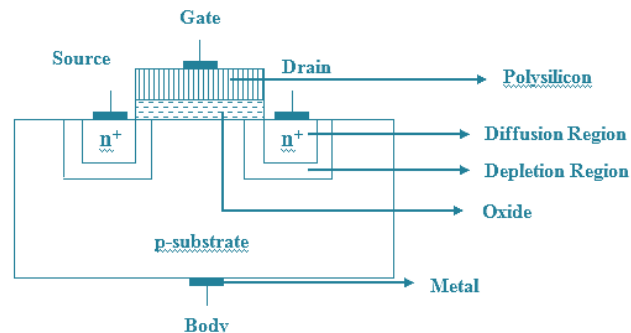

Fig.2.11 (a): Structure of nMOS enhancement transistor
- nMOS enhancement transistor in the fig.2.11 consists of lightly doped p-substrate. Two highly doped n-type regions are formed in the p-substrate by diffusing n-impurities. These regions forms the source and drain terminal of the transistor.